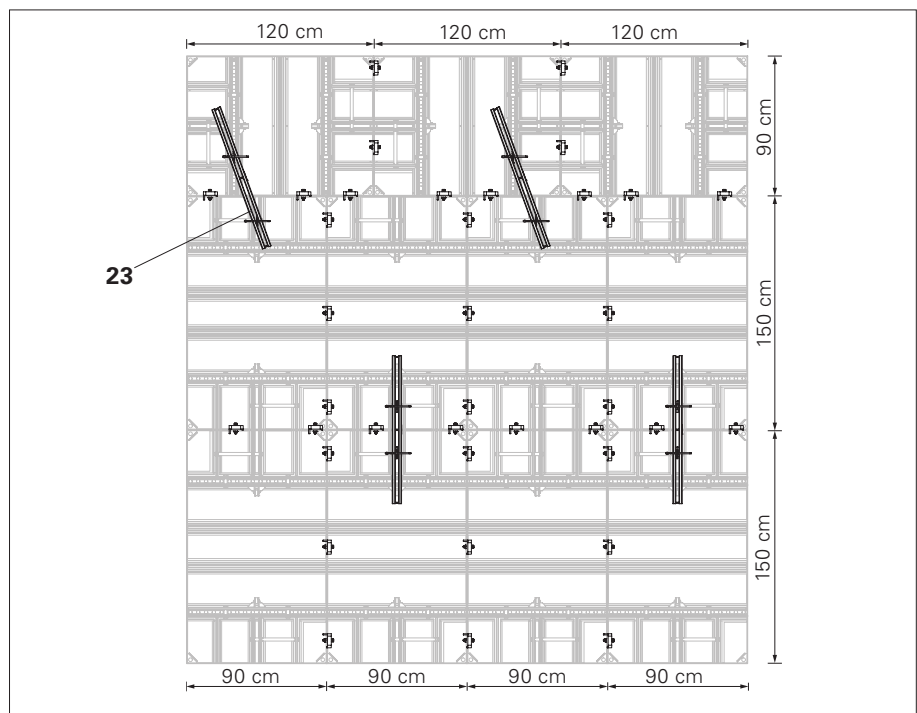

Fig. B6.02
Shown Height = 390 cm (Fig. B6.02)
When pre-assembly is not required for height extension, then a zigzag pattern can be followed as shown in Fig. B6.02 for vertical alignment using Compensation Waler HSA 95 (23).